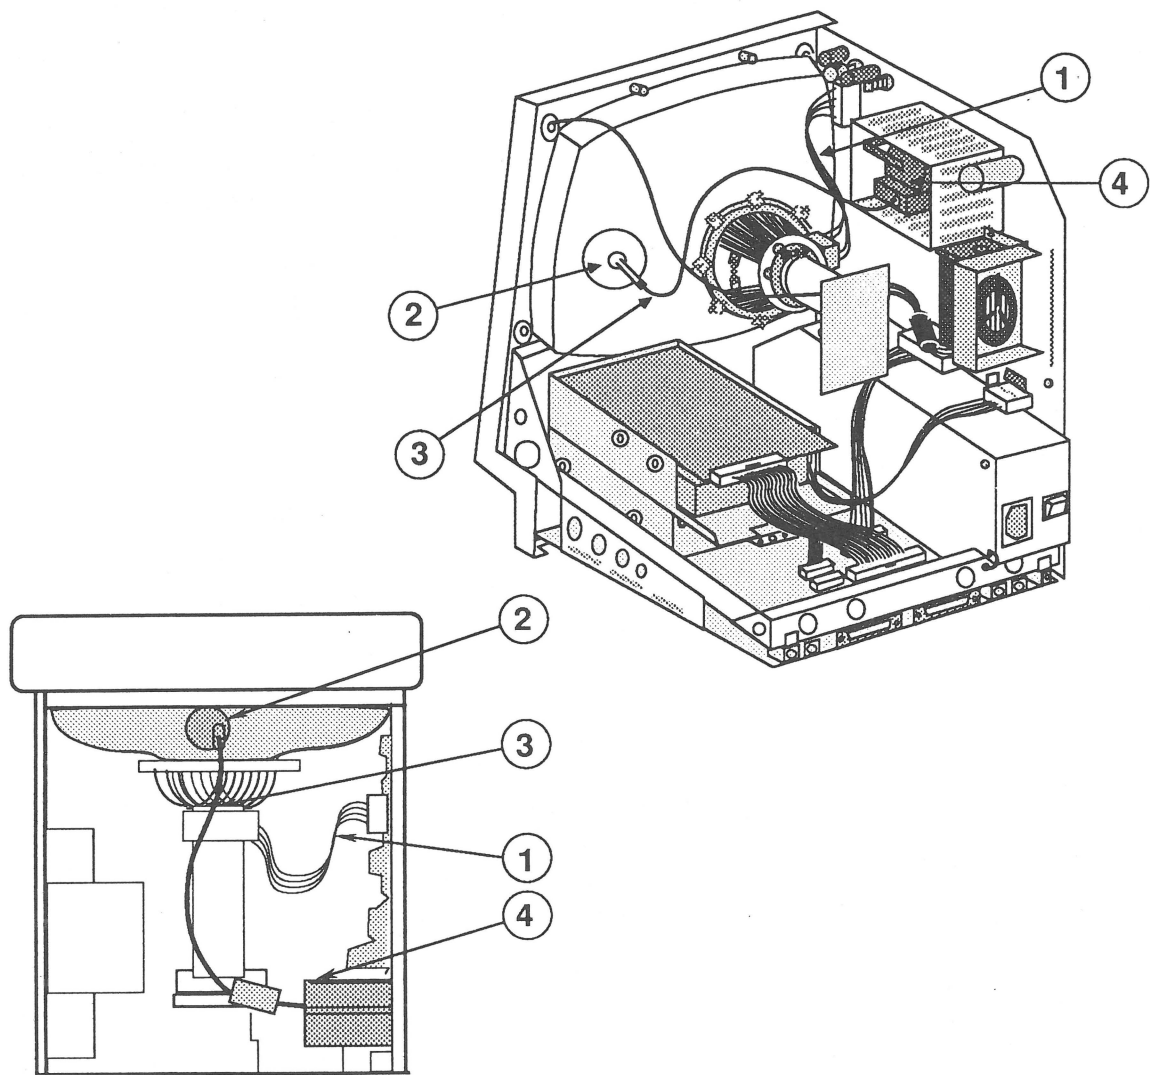

FIGURE 2
- The yoke wires (Figure 2, #1)
- The anode connector (Figure 2, #2)
- The anode wire (Figure 2, #3)
- The flyback transformer (Figure 2, #4)